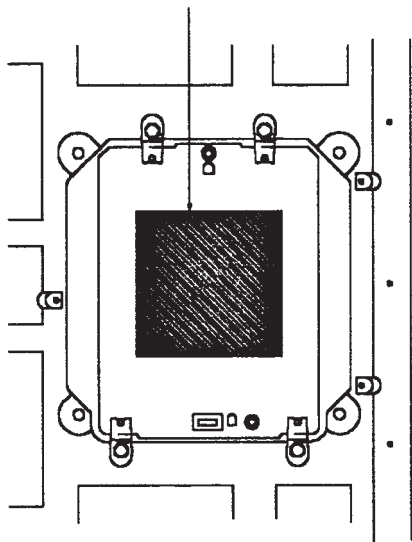

Figure 4-91. TCM Board
1. Inspect the TCM board connectors for dirt, dust, or lint as shown in Figure 4-91.